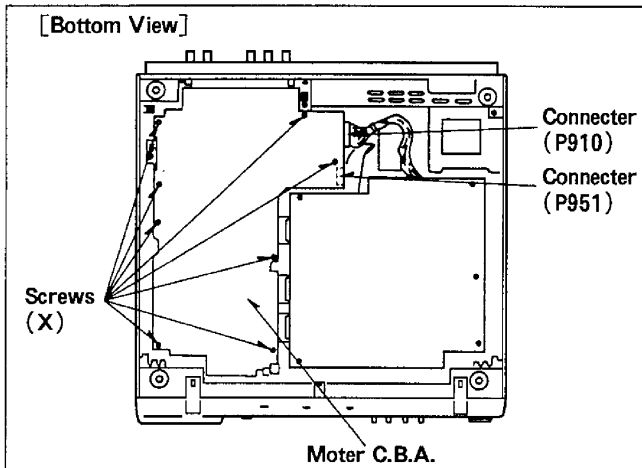

Figure D30
*NOTE: Before removing the Mother C.B.A., be sure to remove the Rear Panel, Front C.B.A., Video Digital C.B.A., Video I/O C.B.A., Audio (1) C.B.A., Audio(2) C.B.A., Interface C.B.A., TBC (1) C.B.A., TBC (2) C.B.A. and Servo & System Control C.B.A.
1. Unscrew the 8 screws (X) on the Mother C.B.A. (Figure D30)
2. Lift the Mother C.B.A. and then disconnect the 2 connectors (P910 and P951). (Figure D30)